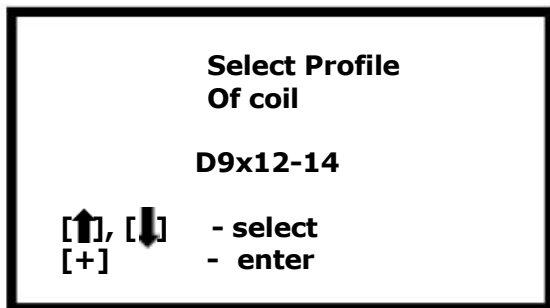

Fig. 14
- **To Add the new coil.** By pressing the button[+] enters the program of automatic adjustment of the selected coil profile (a Fig. 14).